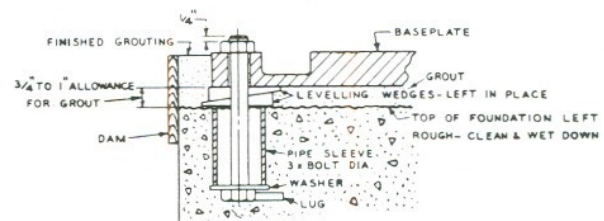

Fig. 3-2
A template should be made to position and hold the foundation bolts in place while pouring the concrete. Location and sizes of bolt holes are shown on the certified outline drawing supplied to the purchaser. Each bolt is installed in a pipe sleeve, the inside diameter of which should be three times the outside diameter of the bolt. The pipe sleeve allows for minor adjustments in bolt spacing after foundation is in place (Fig. 3-2). Two methods commonly used to secure and prevent bolts from turning are:
- a. A washer is placed between the bolt head and pipe sleeve with a lug welded to the bolt head (Fig. 3-2).
Stuff waste between foundation bolts and sleeves to prevent concrete from entering while foundation is being poured. Foundation bolts must be long enough to allow from $\frac{3}{4}$ " to 1" for grouting under the baseplate (Fig. 3-2). When pump is level the bolts should extend $\frac{1}{4}$ " through the nuts. Leave top surface of foundation rough for adherence of grout.
1. Leveling — Move pump next to foundation. The surface of the foundation should be thoroughly cleaned and roughed. Set leveling wedges (fig. 3-2) adjacent to foundation bolts and remove waste from pipe sleeves. Lift pump from skids and clean underside of baseplate. Lower pump over foundation bolts onto wedges. Adjust wedges to allow $\frac{3}{4}$ " to 1" of grout, being sure pump flanges are plumb. Care must be taken at all times to prevent damage or distortion of the pump. A spirit level placed on the machined suction flange may be used to insure that the pump is level end to end and side to side.
2. Grouting in the Baseplate — Build a board dam around the foundation to the desired height for finished grouting (See Fig. 3-2). A mixture of one part portland cement to two parts clean sand with just enough water to mix to a thick creamy consistency should be made for grout. Wet the underside of the baseplate and foundation top, then pour the grout through the holes in the baseplate. Thoroughly puddle the grout during pouring to prevent air pockets and hollow spots. After grout has set sufficiently, remove the board dam and finish off the grout as desired. When grout has hardened, usually in about 48 hours, pull up on foundation bolts.